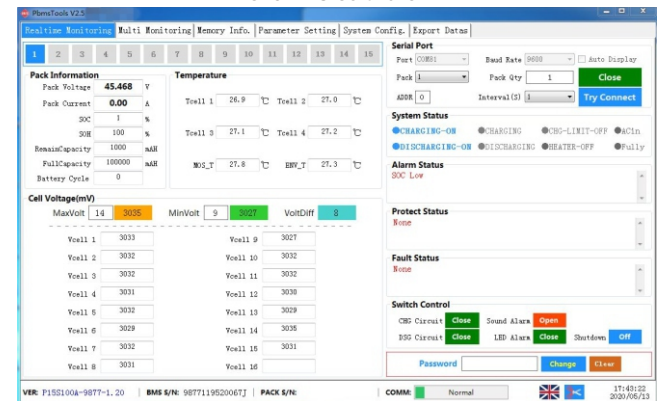

Figure 13: Realtime Monitoring
(1) Double click Pbms Tools .exe icon can show the main interface of the software (As shown in figure 13).
(2) Open the main interface (As shown in figure 13), the software will search serial port and open automatically, and read the battery voltage, temperature, protection state and other battery parameters in real time. Operating authority is divided into general permissions and administrator permissions.